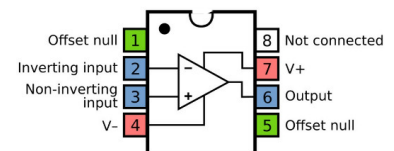

Figure 3: The pin-out for an 8-pin mini DIP op-amp. When in doubt, always look up the data sheet to verify the connections.
1. Pin out. The location of the connections on a device is sometimes called the pin out. You will be using integrated circuit op amps with 8 pins. The package is called a Dual Inline Package (DIP), and this particular version is referred to as a DIP-8 or sometimes mini DIP package. Pins are numbered in counter-clockwise order when the device is viewed from above. A dot or a notch is used to indicate where pin 1 is located. See Figure 3.